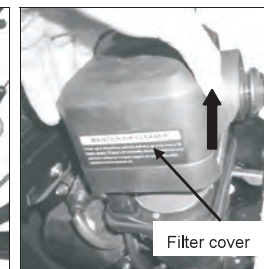

Fig. 20B
2. Remove the filter cover. (Fig. 20B)